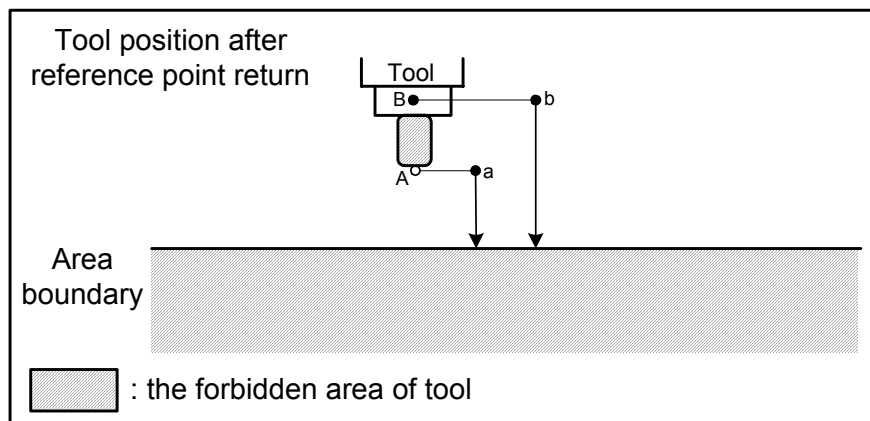

Fig. 2-6-4 Set the forbidden area
- 3) The inspection point of forbidden area: It is important to confirm the inspection point position (the top of the tool-nose or tool-setting) before programming the forbidden area. Refer to the **Fig. 2-6-4**, for example, the inspection point A (tool-nose), the distance "a" should be set as the data of the stored function inspection; the point B (tool-setting), the distance "b" should be set as the data of the stored function inspection. When the inspection point is A (tool-nose), and the tool length varies from different tools, the forbidden area should be set based upon the longest tool to guarantee the safety operation.